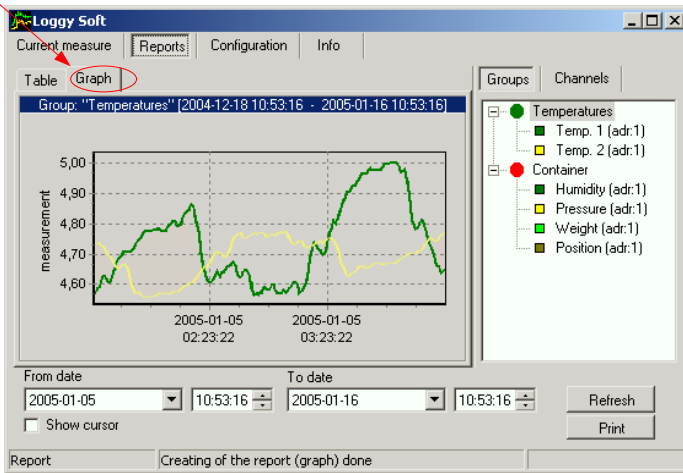

Fig. 3.6. Reports - Graph tab
Graph tab (Fig. 3.6) is used for viewing and printing of measurement results recorded by an **SRD-99** device (e.g. temperature, humidity) in the form of a graph. Measurements from a maximum of five recorded measurement channels can be viewed.
- **graphs area** - plots measured values (e.g. temperature, humidity) in function of time. Each channel is distinguished by a different colour (Fig. 3.6);
- click appropriate tab **Groups** or **Channels** (Fig. 3.6),